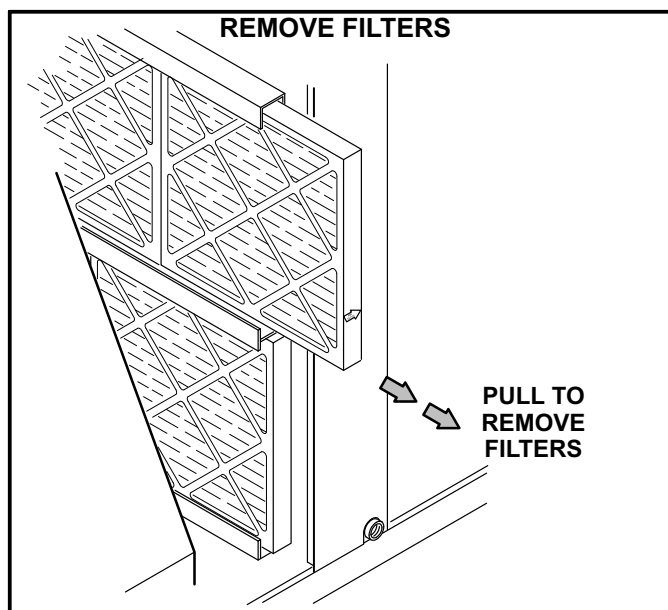

FIGURE 23
- The subcooling temperature should be as shown in figure 23. A subcooling temperature greater than this value indicates an overcharge. A subcooling temperature less than this value indicates an undercharge.